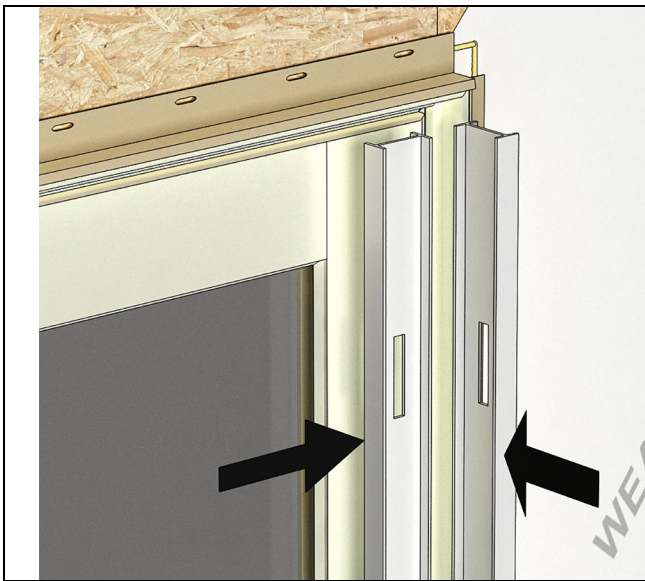

Figure 14
4. Before the sealant is allowed to set up, ensure the jambs are straight and plumb (interior/exterior and left/right). The sill must be level and straight. See Figure 14.